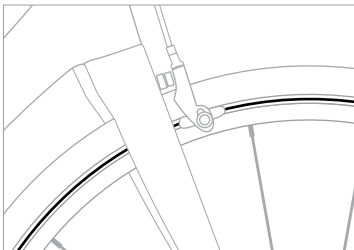

Figure 2.1. Aluminum rim wear-indicator.
- A shallow groove around the circumference of the rim (Figure 2.1). If the groove is no longer visible in any spot, replace the rim.